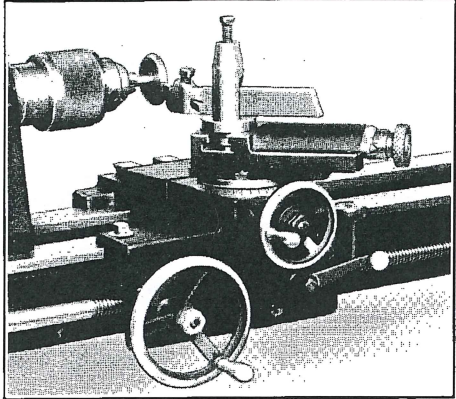

Fig. 19
**UNIVERSAL CHUCK.** (See Fig. 19.) This Chuck was developed especially for use on this lathe. It is threaded to fit the spindle and capably replaces expensive draw-in collets. With it small diameters from 1/8" to 5/8" can be mounted in the lathe and turned, etc.
**COMPOUND REST.** (See Fig. 19.) With a compound rest the cutting tool may be fed to the work at any angle. This makes possible the cutting of tapers beyond the range of the regular taper attachment. This type rest is also of valued assistance in thread cutting. For cutting U.S.S. thread, for example, set the rest at 29 degrees. Grind and set the tool in the usual manner and run it up to the work with the cross slide screw. Mark a line across the dial on screw with chalk and return feed screw to this line after each cut. Do feeding in with the compound rest. In this method the cutting tool cuts on only one side and produces a cleaner thread. There is also less chance of chipping off end of cutting tool.